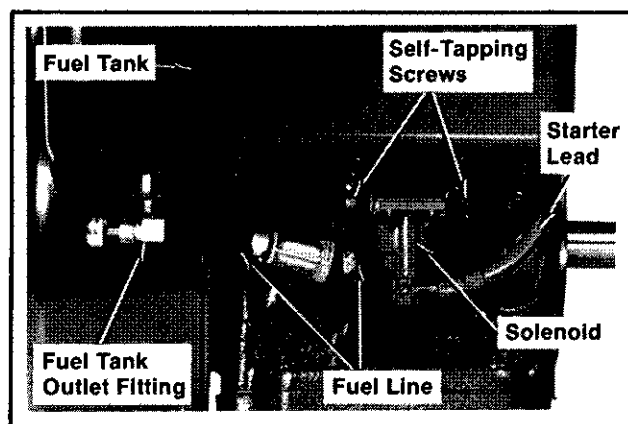

Figure 10B-10. Removing Fuel Tank.
1. Disconnect leads from starter and solenoid. Refer to Figure 10B-10.